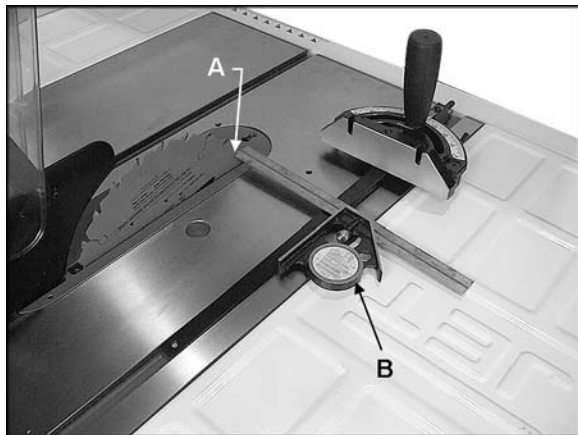

Figure 27
Refer to Figures 27 and 28.
4. Raise the miter gauge slightly out of its slot to serve as a shoulder. Using a sliding square (B) against the side of the bar, slide the scale over until it touches the tip of the blade, and lock the scale in position. See Figure 27.